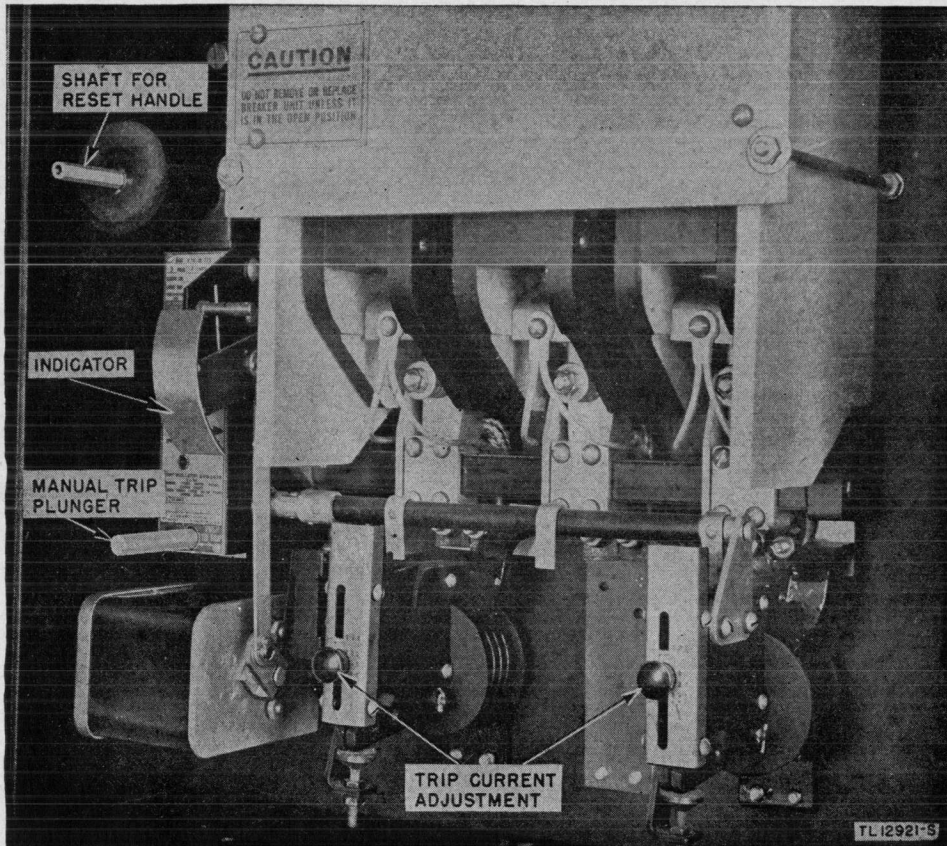

Figure 18. High speed circuit breaker, cover removed.
**c. HIGH-SPEED CIRCUIT BREAKER.** This circuit breaker is shown in figures 18 and 19. Two adjustments are provided for setting the amount of tripping current required. The current scale reads from 225 amperes to 450 amperes and the adjustment is made by loosening the small knob and moving the index along the scale to the desired point. Both index adjustments should be set to the same value. To set the circuit breaker, the reset handle is first turned to full counterclockwise position and then rotated as far in the clockwise direction as it will go. The circuit breaker may be tripped manually by pushing the trip plunger.